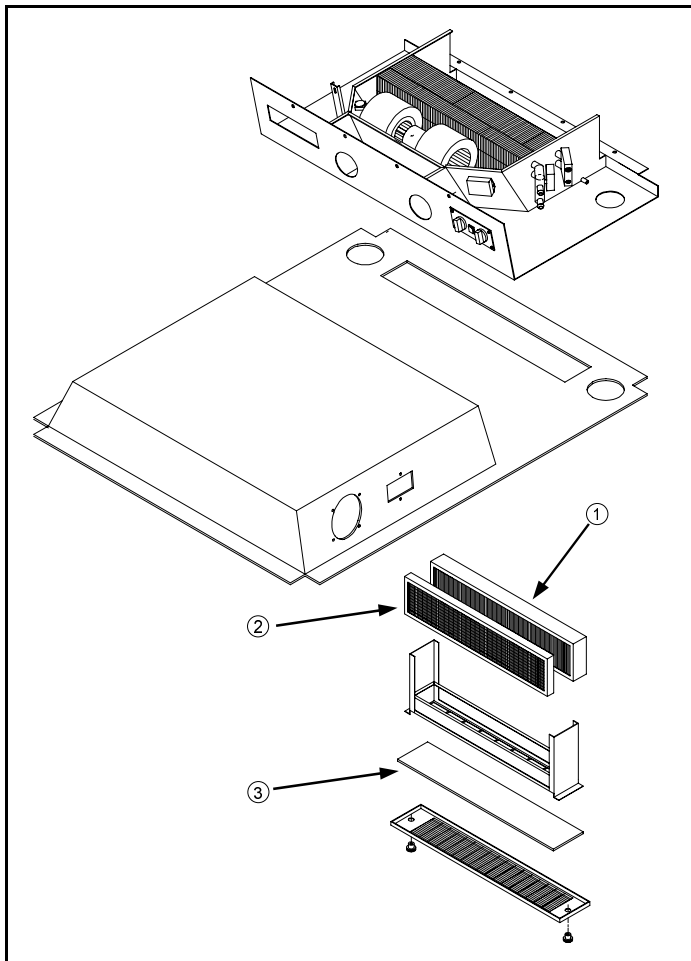

FIG 8.31
PAPER FILTER - (fig. 8.31, item 1) The paper filter should be cleaned once a year, or more often if necessary. Remove the paper element and gently tap it against a flat surface. Direct low
CHARCOAL FILTER - (fig. 8.31, item 2) Remove and replace at the first sign of chemical odor entering the cab.
RECIRCULATING FILTER - (fig. 8.31, item 3) The recirculating filter may be cleaned with soap and water. Replace if it becomes worn.